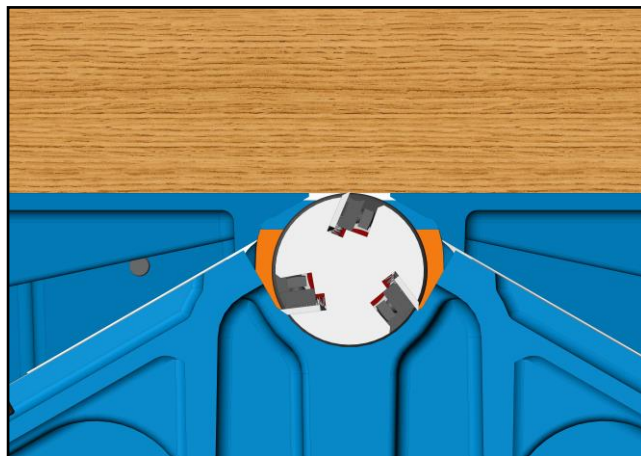

FIG. 16
2. Place a metal straightedge across both tables as shown in Fig.16, and make sure both tables are set to the exact height of the high point of the knives.